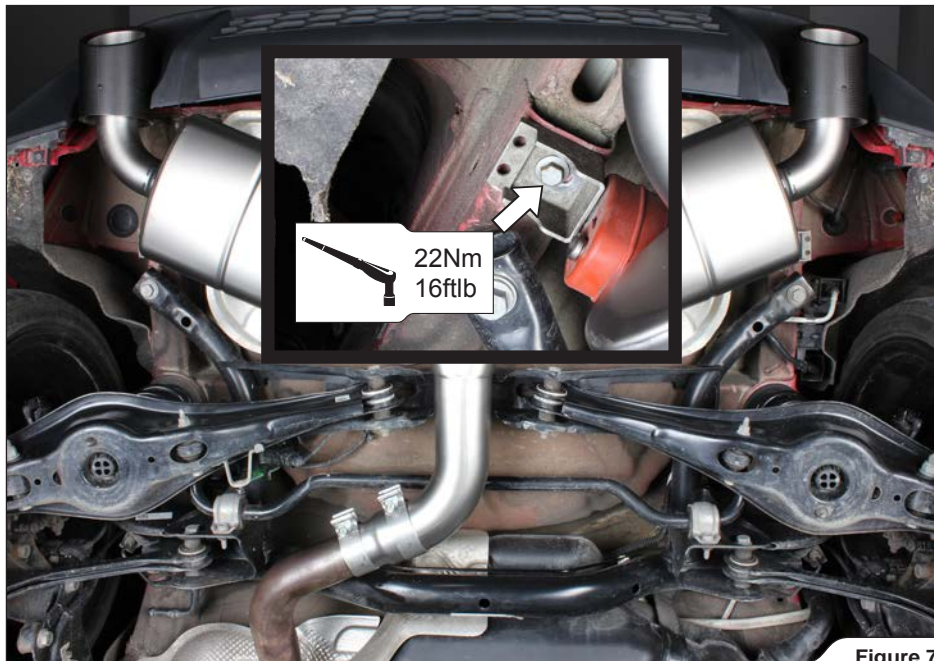

Figure 7
- Slide the muffler onto the stock pipe and tighten the stock rubber brackets onto the vehicle chassis (**Figure 7**).